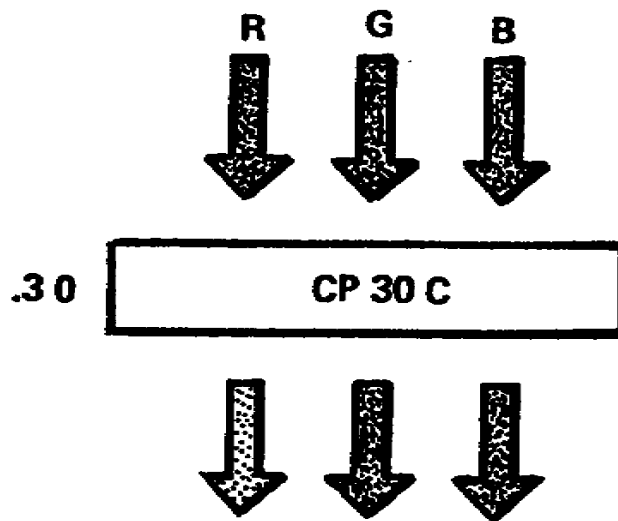

Figure 2-4. Color printing filter
4. The principal theory of filters is that a filter transmits its own color and absorbs all others (table 2-1). A red filter will transmit red and absorb blue and green and the color they have in common is cyan. A cyan filter will transmit blue and green but will absorb red which is its complement. When a CP 30C filter (fig 2-4) is placed over a white light source in subtractive color printing, it will transmit almost all the green and blue and subtract part of the red. In this case it will be 0.30 log exposure unit.